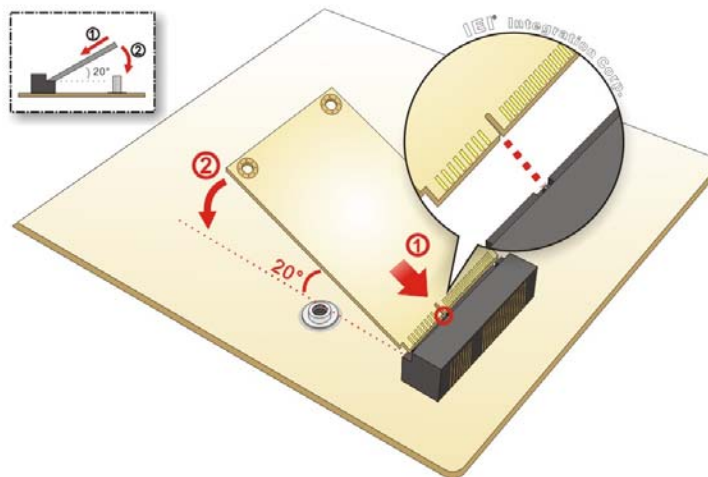

Figure 3-10: Inserting the Full-size PCIe Mini Card into the Slot at an Angle
Step 5: Insert into the socket at an angle. Line up the notch on the card with the notch on the slot. Slide the PCIe Mini card into the socket at an angle of about 20° (Figure 3-10).